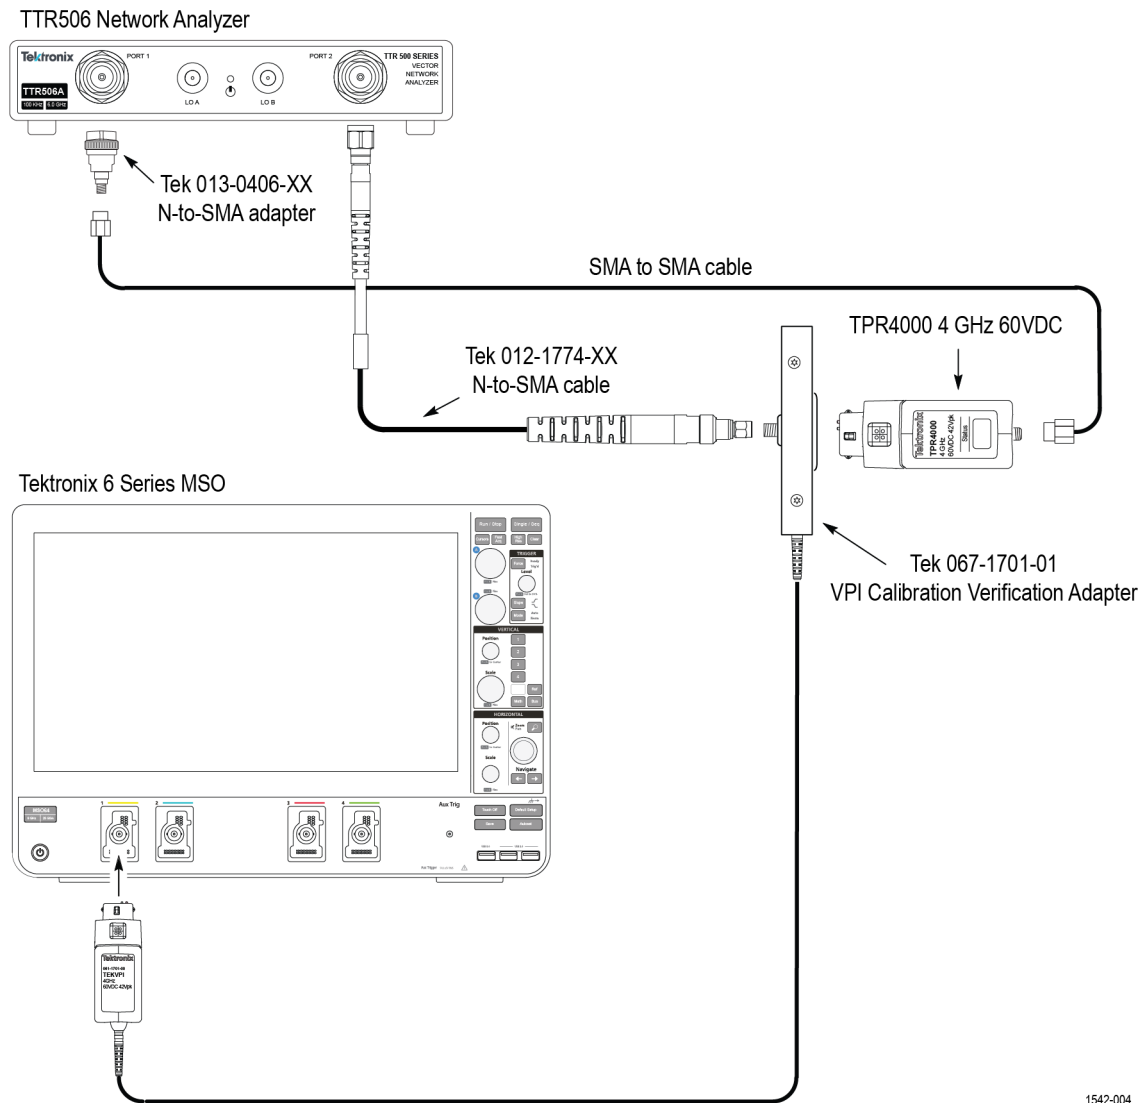

Figure 7: Analyzer setup connection diagram
1. Connect the test equipment as shown in the Analyzer setup diagram. (See Figure 7.)